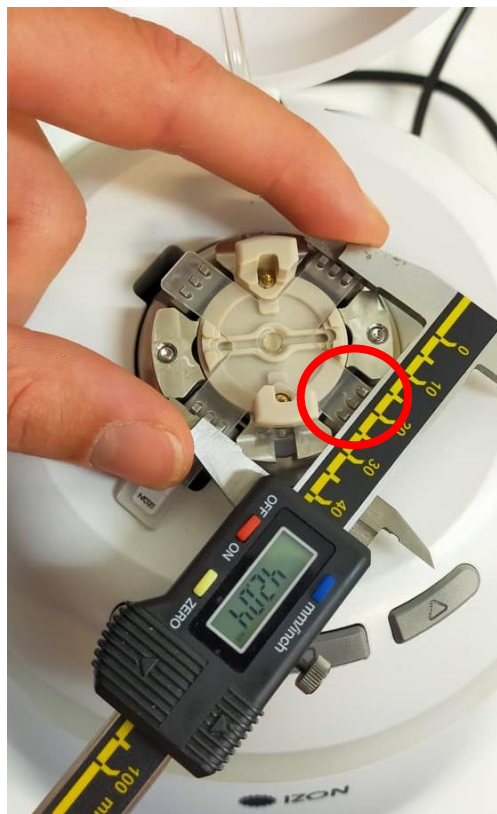
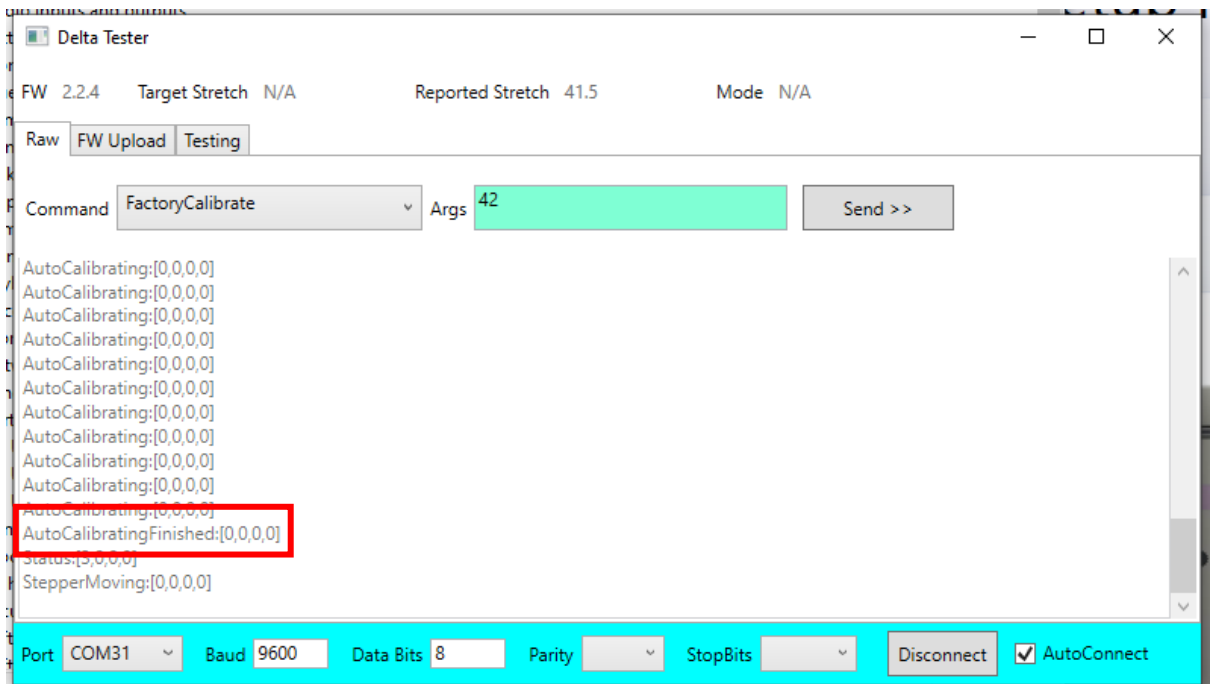

Figure 7: How to measure the stretch using callipers. Ensure the main scale (ruler) is pressed firmly against the appropriate jaw, indicated by the red circle.
Figure 9: Display when autocalibration of the delta is complete.
10. Measure the stretch using callipers as shown in figure 7.
12. The system will now auto-calibrate to 41.5 ± 0.2 mm. Auto-calibration is complete once you see 'AutoCalibratingFinished:[0,0,0,0]', as shown in figure 9. Once auto-calibration is complete, measure the stretch using callipers as shown in figure 7 and check it is 41.5 ± 0.2 mm.
14. Measure the stretch as shown in figure 7, check the stretch is within the range of 41.5 ± 0.2 mm. If this is not the case, repeat steps 8-11. It is important to factory calibrate the system ~ 42 mm.